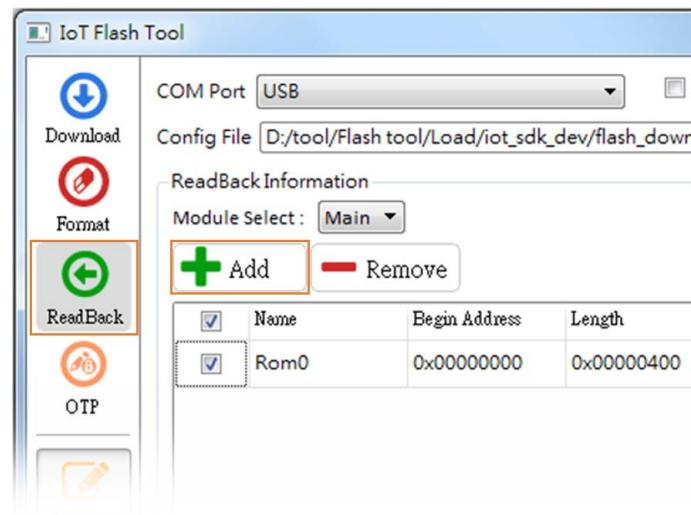

Figure 8. Adding a readback file
- 1) Click **Add** to add a readback file, as shown in Figure 8.